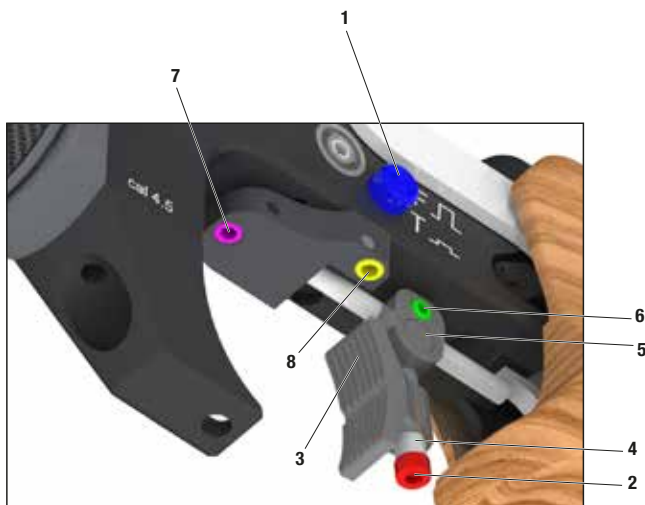

Figure 15
- Turn the setscrew (2, Fig. 15) clockwise with a 2 mm Allen key. The trigger creep will decrease.